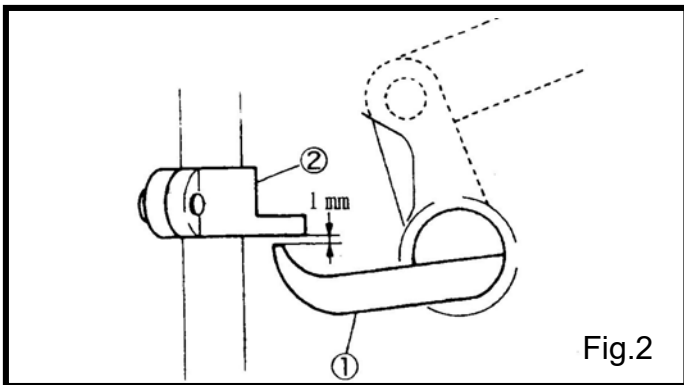

Fig.2
1. 當壓腳緊貼在針板上時，在抬壓腳連接軸①跟壓腳連接托架②留 1mm 的間隙。(Fig.2,3)
1. As standard, make the clearance between the presser bar lifter lever ① and the presser bar connecting bracket ② to 1 mm when the presser foot touches the stitch plate closely.(Fig. 2,3)